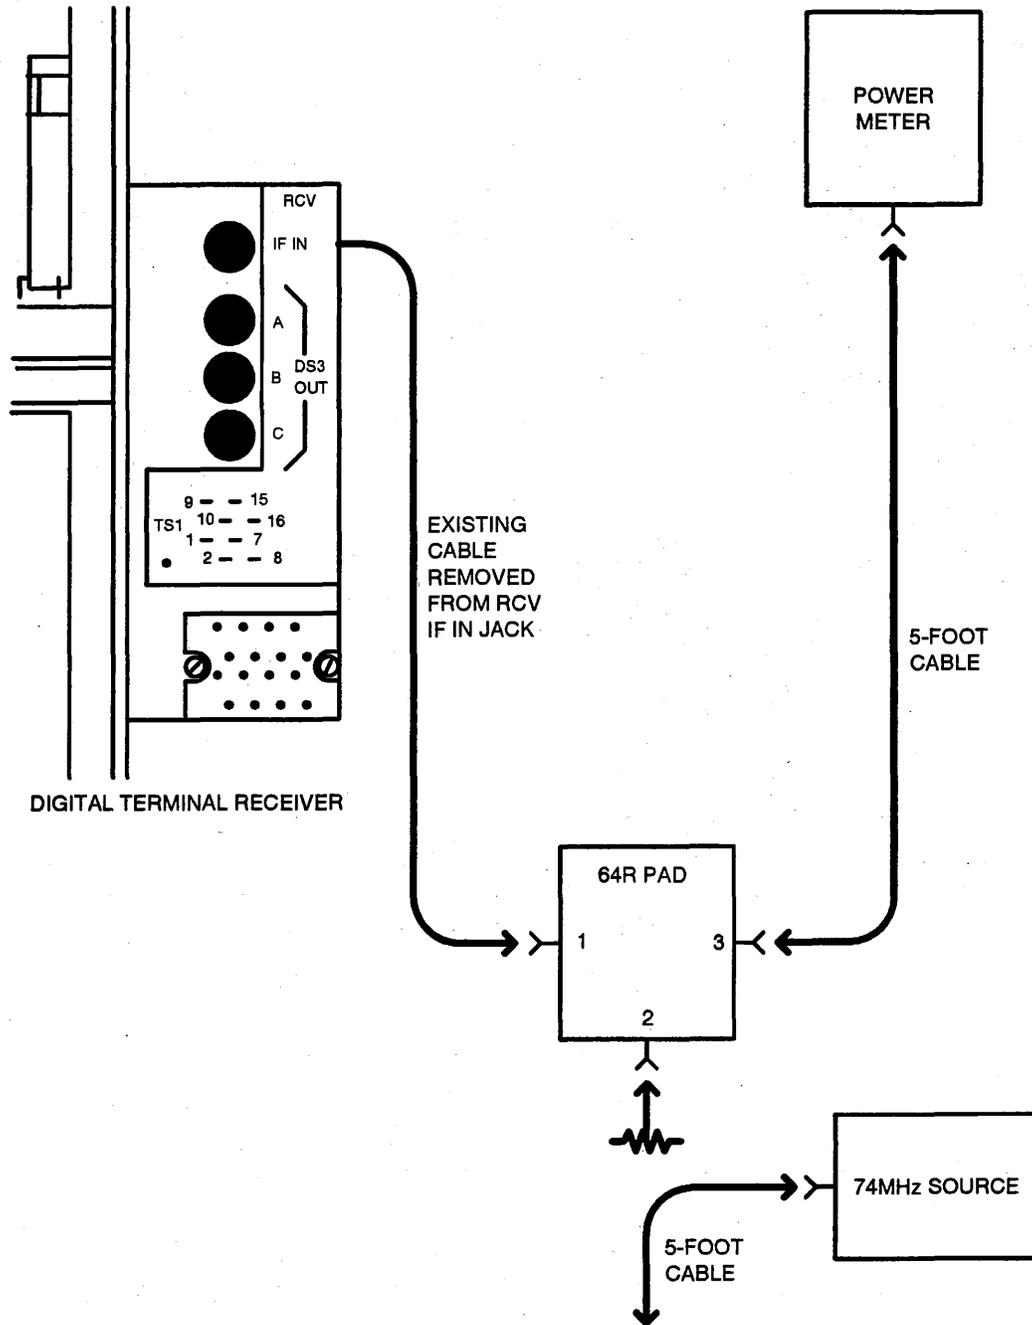

Figure 3-IF Input Signal Level Measurement Test Connections
- Refer to Figure 3.
2. On the terminal shelf patch panel, remove the IF input cable from the RCV IF IN jack for the digital receiver to be evaluated and establish the setup in Figure 3.